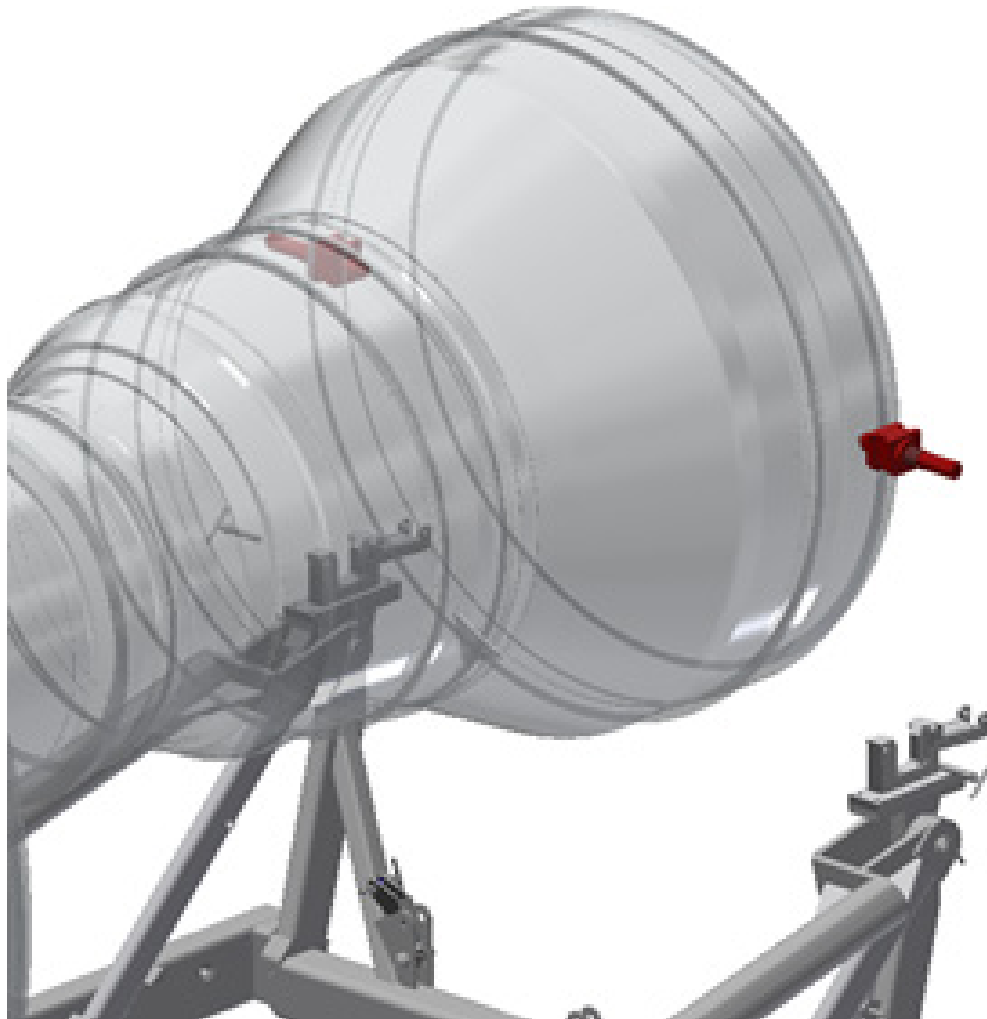

Figure 4.5-3
6). Insert the aft pin adapters AM-1928-E10 (LH) and AM-1928-F10 (RH) into the LPT engine handling points H1-2 and H1-1. The aft adapters will need to be held in this position and guided into the aft support saddles. The forward engine adapters AM-1928-A34 (LH) and AM-1928-B34 (RH) will need to be held with the support daggers vertical. Figure 4.5-3.